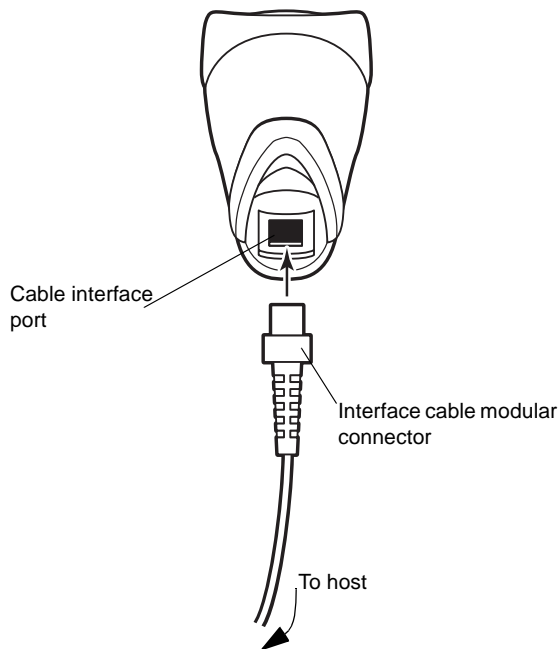

Figure 1-2. Installing the Cable
1. Plug the interface cable modular connector into the cable interface port on the bottom of the scanner handle. (See Figure 1-2.)